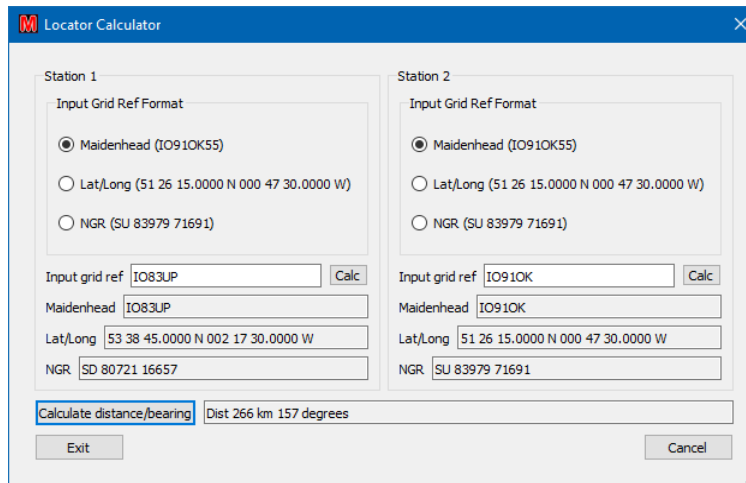

Figure 48 – Locator calculator
Depending on the option selected, you can enter a Locator, a Latitude/Longitude, or a (UK) National Grid Reference⁴⁷ into the **“Input grid ref”** box (see Figure 48) and convert between the various displays. Selecting **“Calc”** (or hitting **‘Return’**) will then calculate and display the other two formats. If both Station details are given it also calculates the distance and bearing from Station 1 to Station 2.